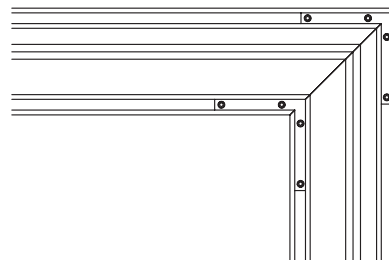

Figure 5
- ② Make sure corner brackets are fully seated (see Fig. 5).